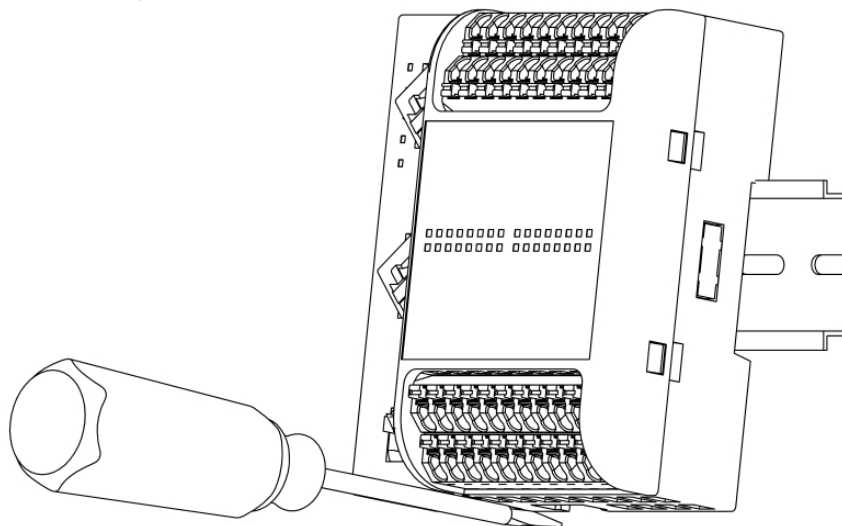

Fig.3-3 Removal of Module
2. Put out the module slightly and form an angle with the DIN35 guide rail before the module pushed upward as shown in Fig.3-3.